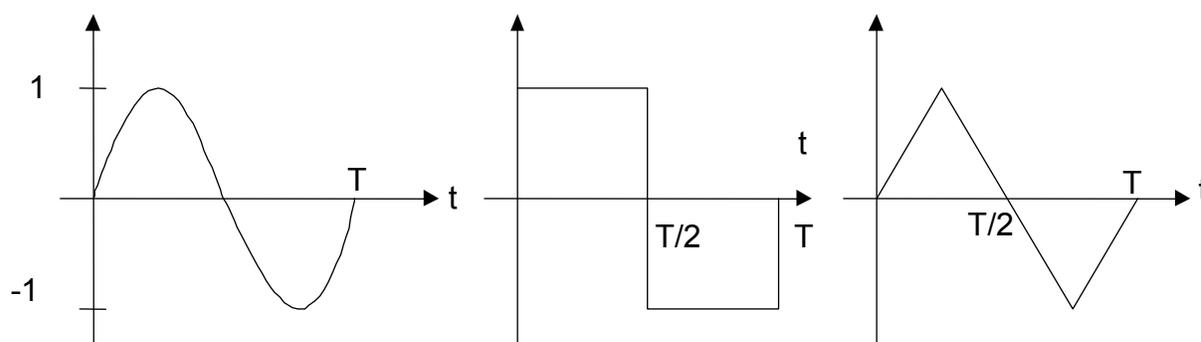

Figure. 1
- 4- Set the DC offset of the signal generator to zero, so that the signal you obtain on the oscilloscope has no DC value as shown in figure 1.
- 8- Set the DC offset of the signal generator to 1 V so that the signal you obtain on the oscilloscope has no DC value of 1 V as shown in figure 1.